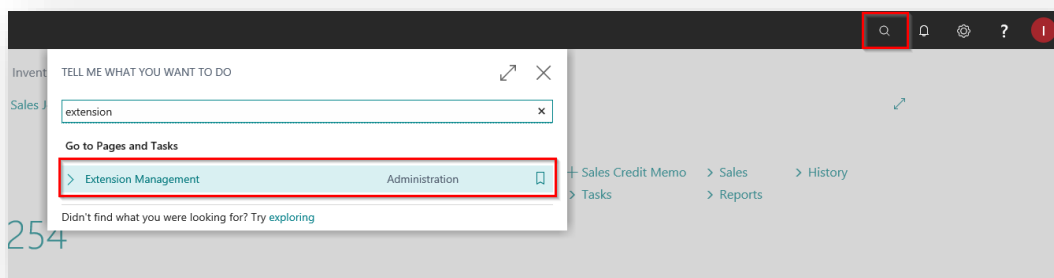

Figure 4-2
1. Open your Dynamics 365 Business Central Web Client and use the **Tell Me** to search for **Extension Management** (Figure 4-2).